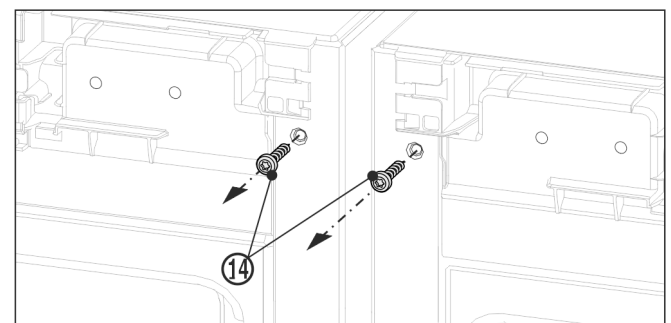

Fig. 9
- Before fitting the top bracket remove both earthing screws Fig. 9 (14).